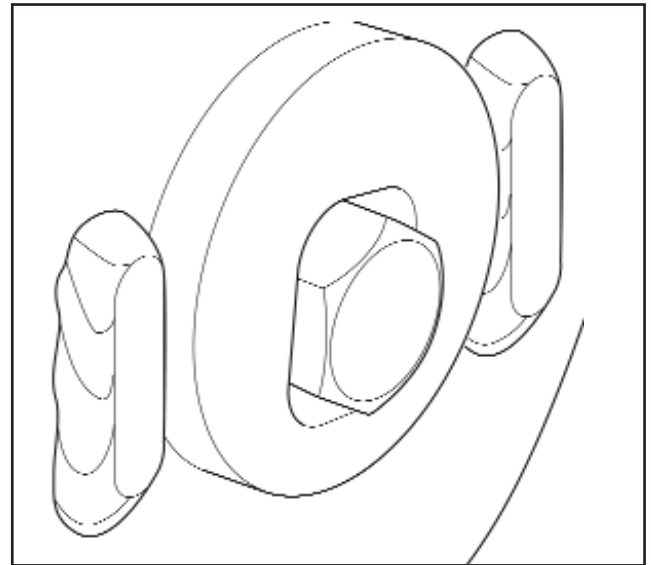

Fig 6.1
3. Using a 36 mm spanner and suitable wrench, loosen the pivot bolts on both sides. Place 36 mm spanner on an outboard boss (eccentric boss) (Fig 6.1), and rotate in desired direction to give an equal measurement on either of the axle to the kingpin.